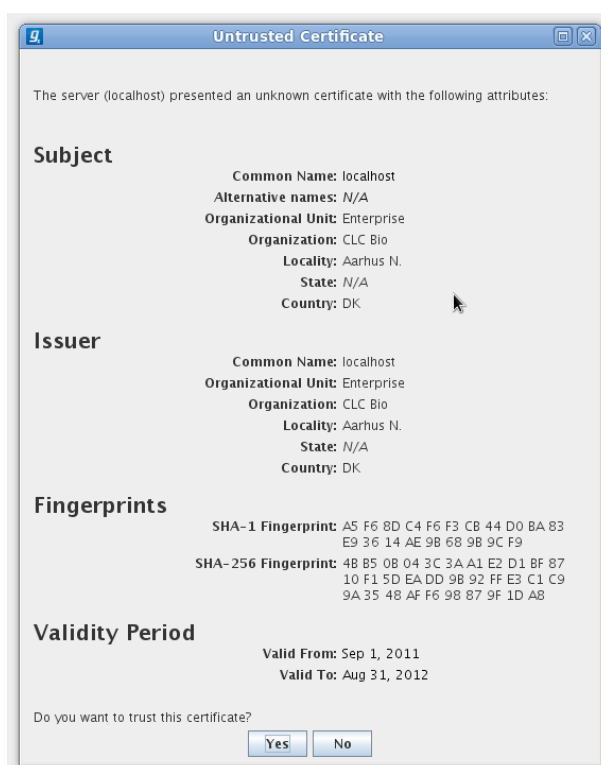

Figure 3.6: A warning is shown when the certificate is not signed by a recognized CA.
If SSL is detected on the port provided, the *CLC Server*'s certificate will be verified before the connection is established. A warning is displayed if the certificate is not signed by a recognized Certificate Authority (CA) (figure 3.6). When such a certificate has been accepted once, the warning will not appear again.